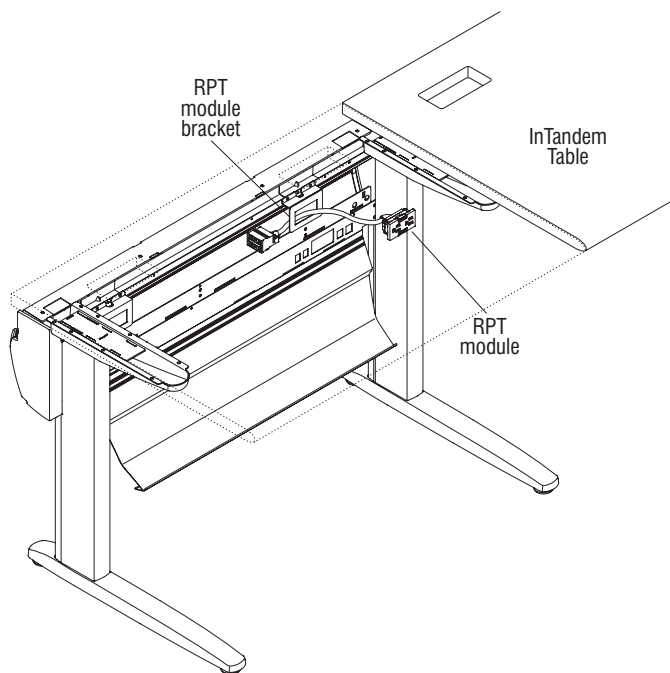

Figure 4 - InTandem Table System
3. Feed the connector end of the RPT module through the rectangular opening in the bracket as illustrated and snap the module into place (Figure 4).